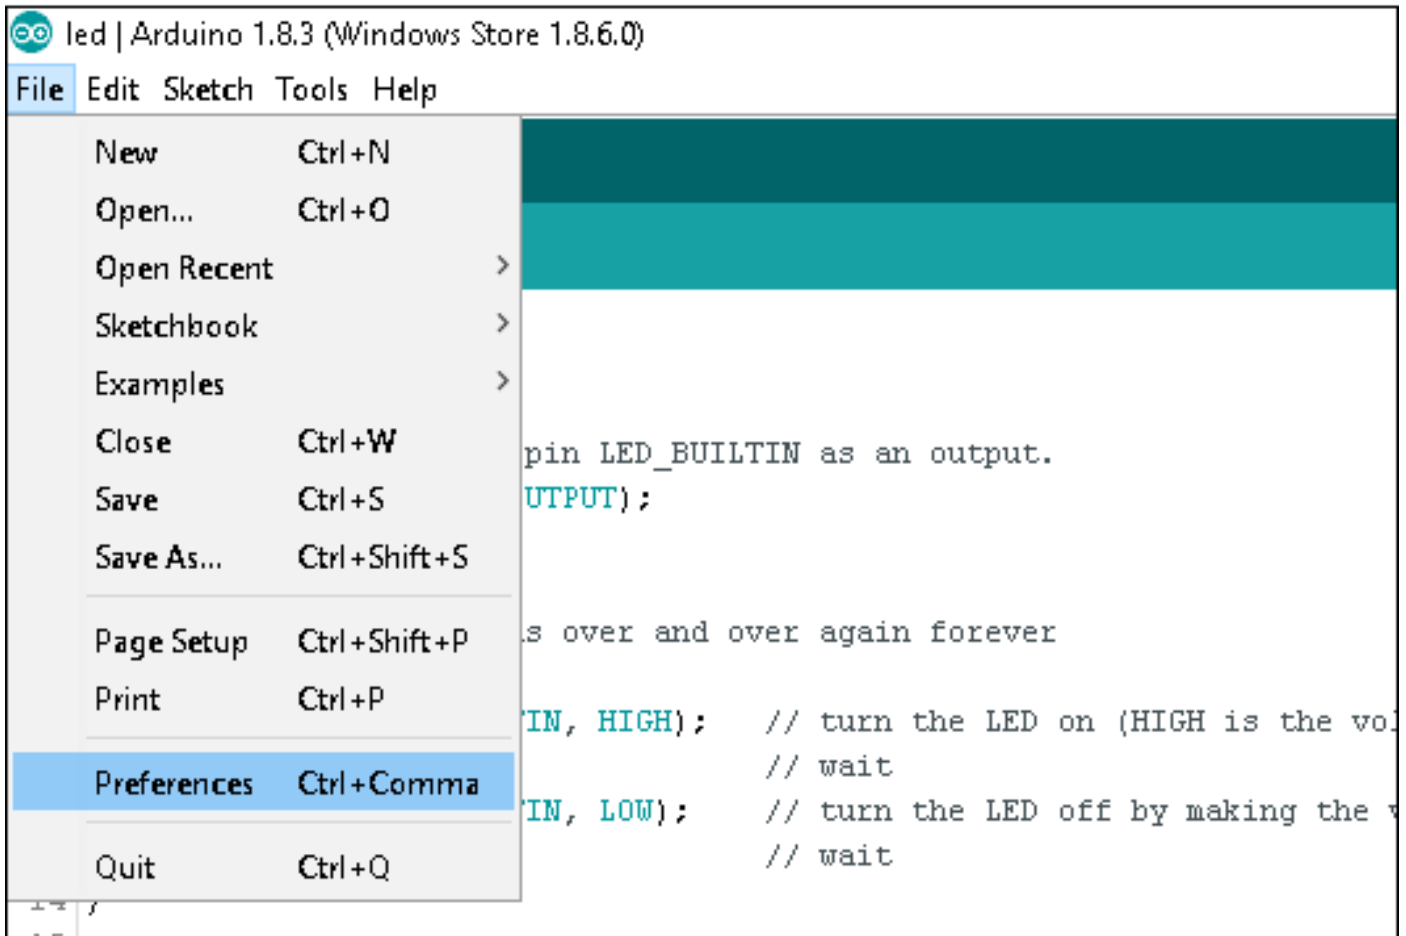

Figure 2-2 Arduino IDE, Preferences Menu
- 2) 把Arduino IDE安装完毕并运行后, 请打开File / Preferences菜单, 如Figure 2-2所示: